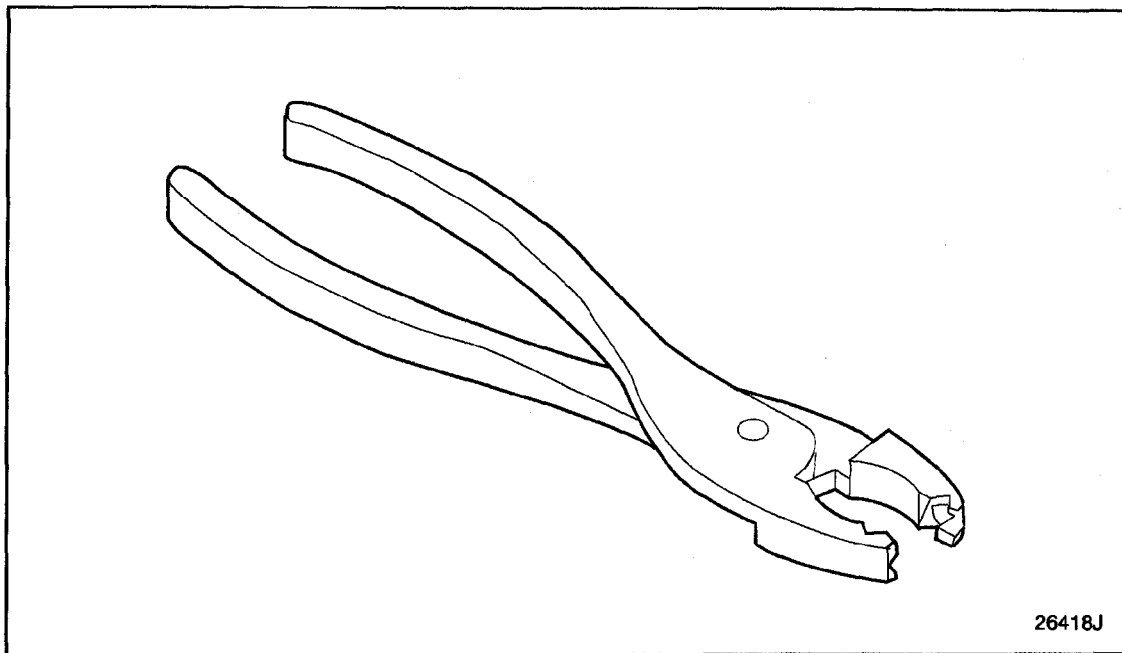

Figure 4-36 **Clamp Installer Tool**
- [a] Using hose clamp installer tool J 41454, install two hose clamps onto the water bypass tube; then push a connecting hose onto each end of the bypass tube. See Figure 4-36. Using hose clamp installer tool J 41454, open the clamps and slide them over the hoses to secure them in place on the tube.